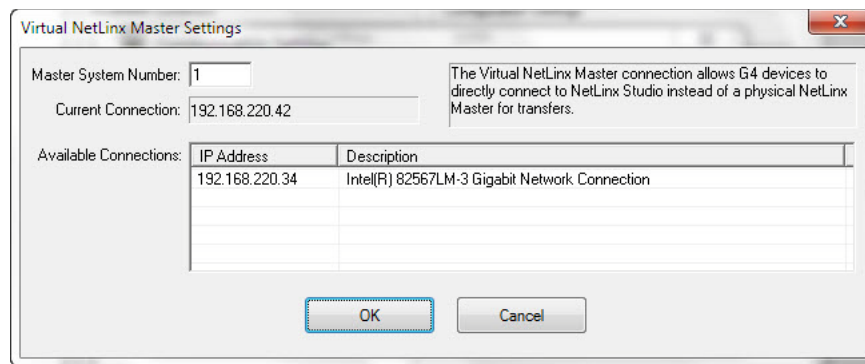

FIG. 27 Virtual NetLinx Master Settings
- Click the **Edit Settings** button on the *Communications Settings* dialog to open the *Virtual NetLinx Master Settings* dialog (FIG. 27).